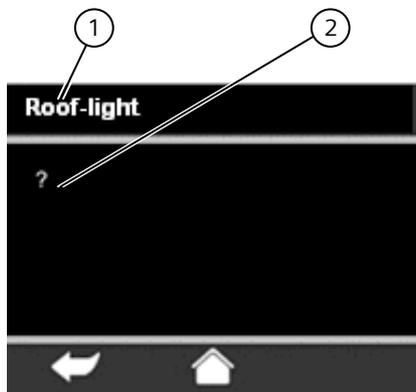

Figure. 29. Message for undefined state (example)
- If the request of the object value fails before a corresponding bus telegram arrives, then the message is output for an undefined state. The message contains the channel name as a heading and ? as the message text (Figure 29).